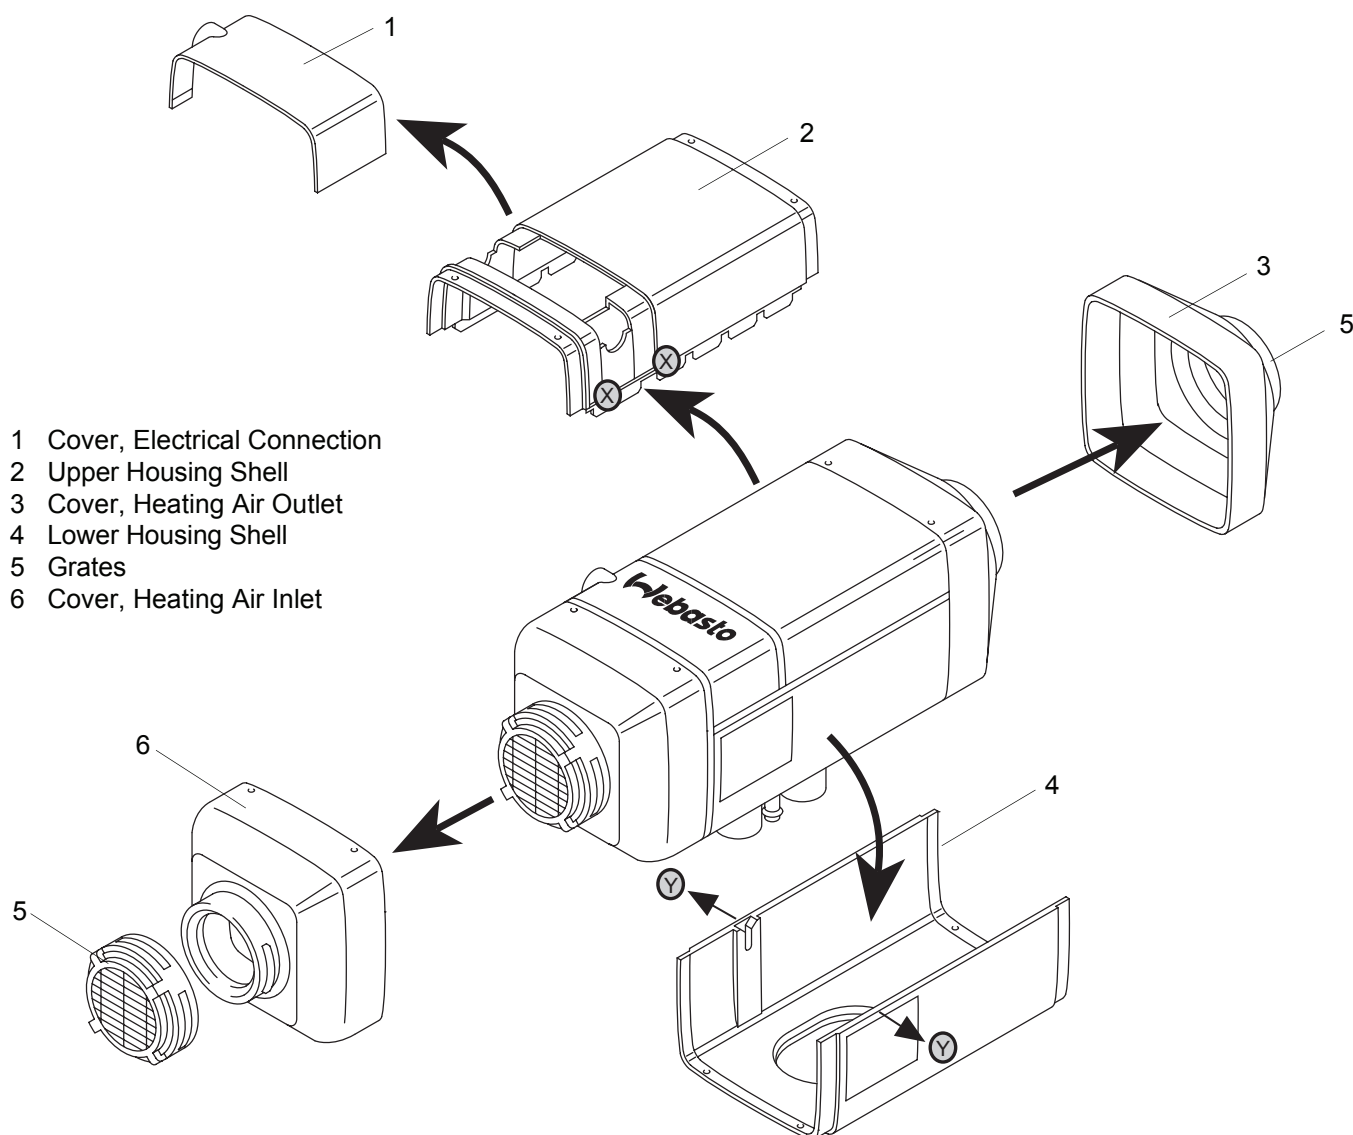

Fig. 901 Removal of Housing Components/Covers
Dependent on the type of installation the cable loom exits the air heater either on the left or right. The cover (1, Fig. 901) may be levered off using a blunt blade in the areas marked (X).
The grates (5, Fig. 901) can be released from the covers by twisting and pulling off forwards.
Both covers (3 and 6, Fig. 901) can be released and removed by pressing the four detents on top and bottom using a suitable tool.
The upper shell (2, Fig. 901) can be raised by pulling up.
By gently pulling the lower shell (4, Fig. 901) on both sides in the areas (Y), you can release the fixing and the shell can be taken off the motor casing.
2. Remove covers for heating air inlet and outlet (6 and 3, Fig. 901) according to 9.2.1.3.